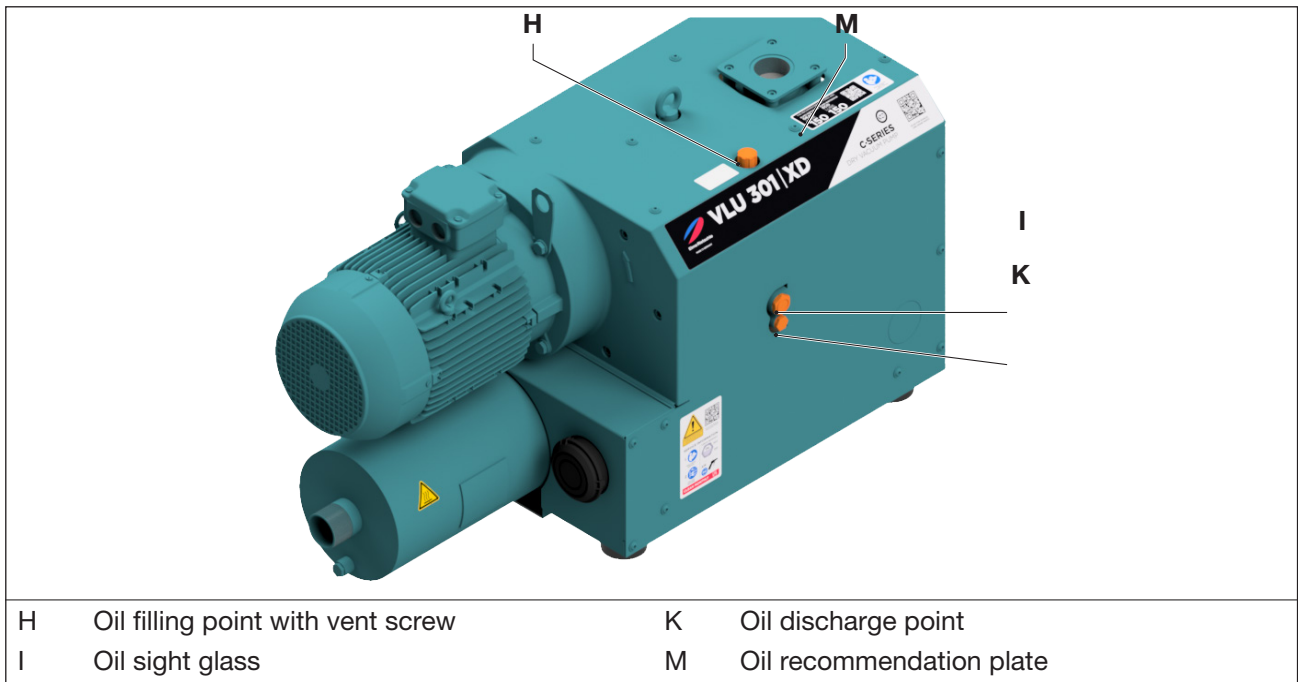

Fig. 5 Oil change
As operating agent, we recommend Elmo Rietschle oils, see the recommendation for on plate (Fig. 5/M) as well as Tab. 3 on page 31:
Check the oil level in the sight glasses (Fig. 5/I) every month.
- b) Open the cap of the oil filling point (Fig. 5/H) and refill oil until it reaches the upper edge of the sight glass (Fig. 5/I).
- Open the cap of the oil filling point (Fig. 5/H), open the oil discharge point (Fig. 5/K) and completely discharge the used oil.
- Close the oil discharge point (Fig. 5/K) and fill in new oil through the oil filling point (Fig. 5/H). Check the oil level in the sight glasses (Fig. 5/I).
- Close the screw in the oil filling point (Fig. 5/H).